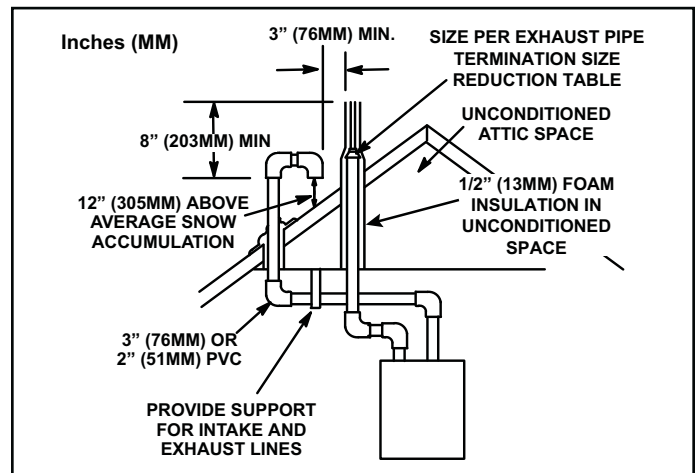
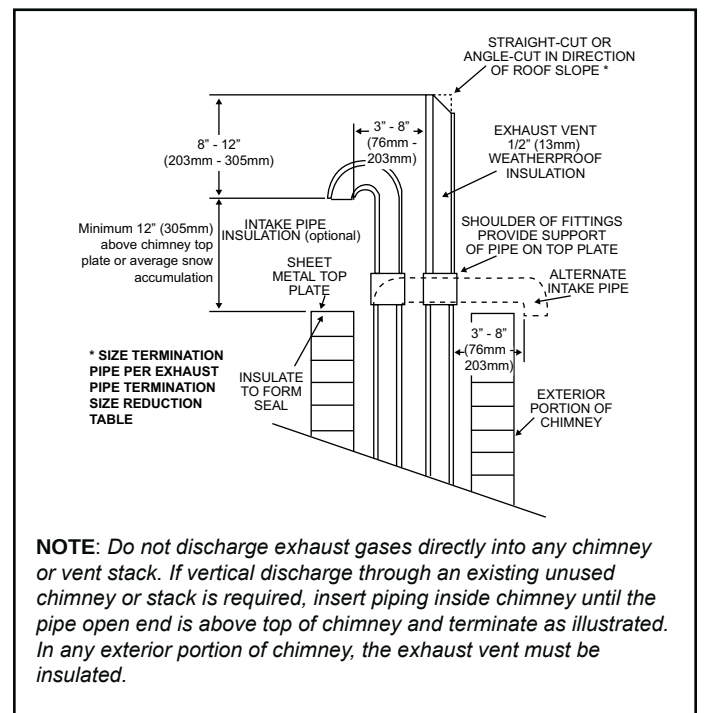

Figure 26. Direct Vent Roof Termination Kit (15F75 or 44J41)
Figure 32. Direct Vent Application Using Existing Chimney
Intake and exhaust pipes may be routed either horizontally through and outside wall or vertically through the roof. In attic or closet installations, vertical termination through the roof is preferred. Figure 26 through Figure 32 show typical terminations.
3. On roof terminations, the intake piping should terminate straight down using two 90° elbows (See Figure 26).